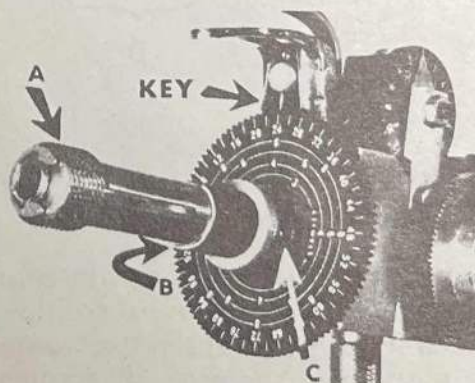

Figure 5.
When changing an index gear, remove the dop chuck (A) and the grits sleeve, (B), loosen the set screw, (C) and remove the gear, (Fig. 5). Some units have a gear sector acting as a key, and some have a single point key. If you have a single point type, there is no need to change it when changing index gears. If you have the gear sector, however, (which is shown in figure 5), remove the screw in the gear sector and remove the sector. Install the new sector on the dowel pin and insert the screw. Install the new gear on the spindle shaft. Before tightening the set screw, latch into the free wheeling position and check for rotational freedom and lack of end play. Be sure the set screw is seated in center of flat on the shaft.